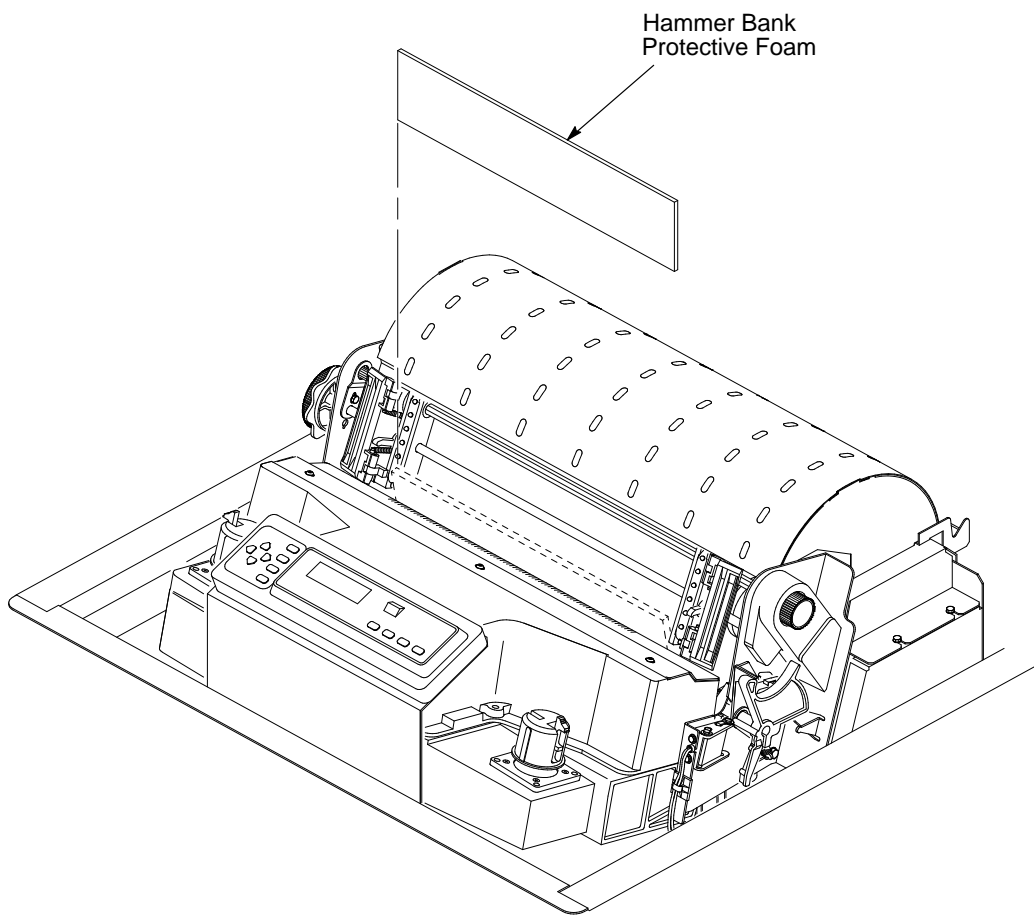

Figure 2–5. Removing the Hammer Bank Protective Foam
1. Rotate the hammer bank protective foam toward the front of the printer and remove it from between the ribbon mask and the platen. (See Figure 2–5.)